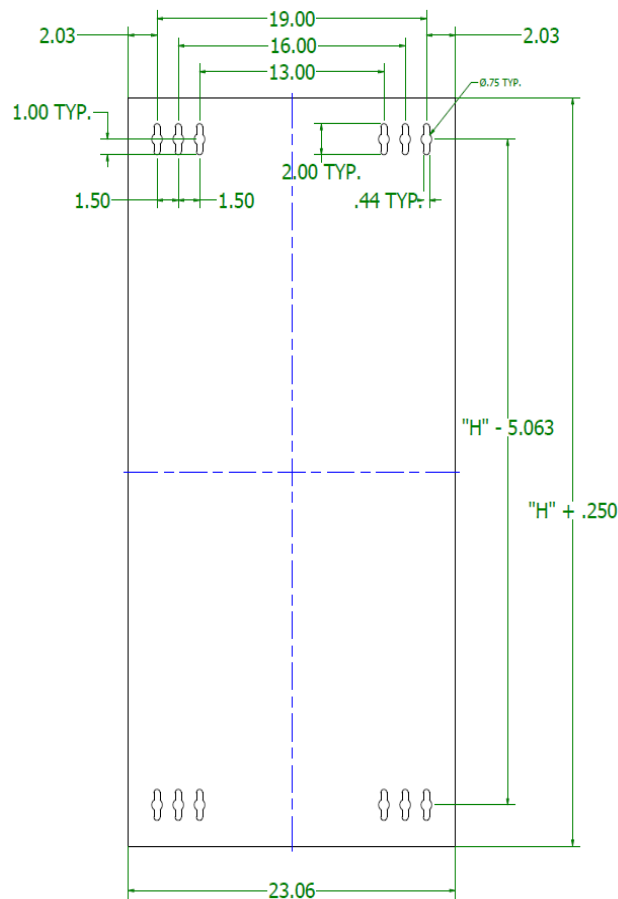

Figure 2
**Step 2:** Drill pilot holes using dimensions shown in Figure 2 and apply the hardware to the appropriately chosen holes to support the entire weight of the enclosure and its planned load weight up to but not exceeding 300lbs. The rear section can then be hung to the wall using the appropriate keyhole slot in each corner. Once the rear section is leveled, the anchoring hardware may be tightened.